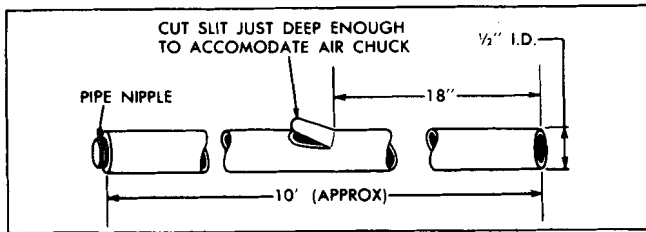

Fig. 8-28 Fuel Tank Drain Hose
2. Insert a length of hose (refer to Fig. 8-28 for details) into gas tank, pipe nipple end first, until weighted end of hose rests on bottom of tank.